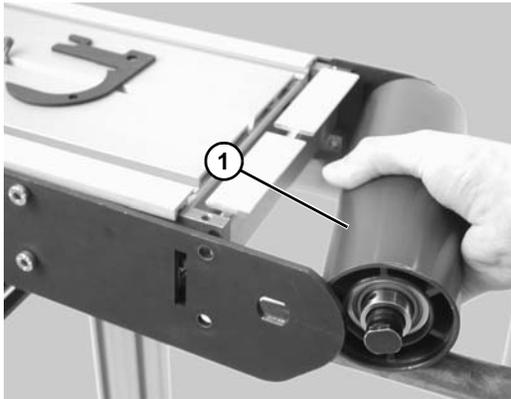

Figure 56
- Slide the idler pulley assembly (Figure 56, item 1) out of the headplate on the opposite side.